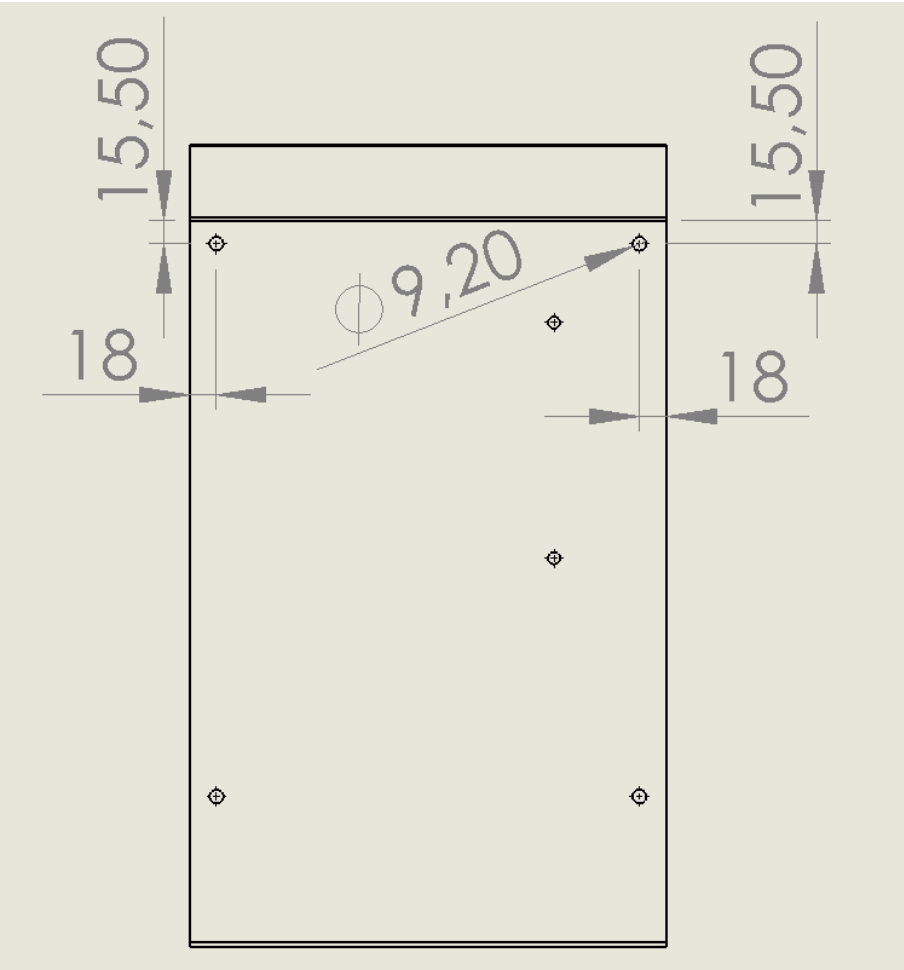

Fig. 5 – Front Panel with 2 more holes
4. The tank support **(d)** can now be mounted onto the front sheet **(c)** by means of the fixing elements **(k)** (see Fig. 5). The allen screws M8 x 16 INOX **(s)**, which are currently fastened on the front sheet, are too short and have to be replaced by the M8x20 screws. Please use the already existing M8 washers, nuts and lock washers from the front sheet fixing elements. There are 2 included in the scope of supply